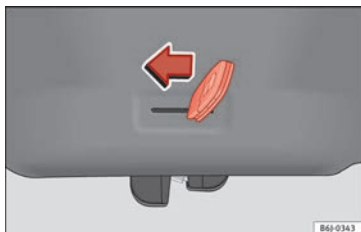

Fig. 168 Rear lid: emergency opening.
- Insert the key in the groove and unlock the locking system, turning the key from right to left, as shown by the arrow » **Fig. 168.**